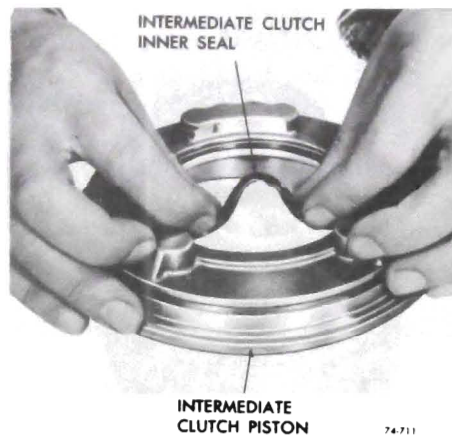

Figure 76-711
5. Remove the inner piston seal. See Figure 76-711.
1. Install new inner seal on the piston with lip of the seal facing away from the spring pocket. See Figure 76-711.